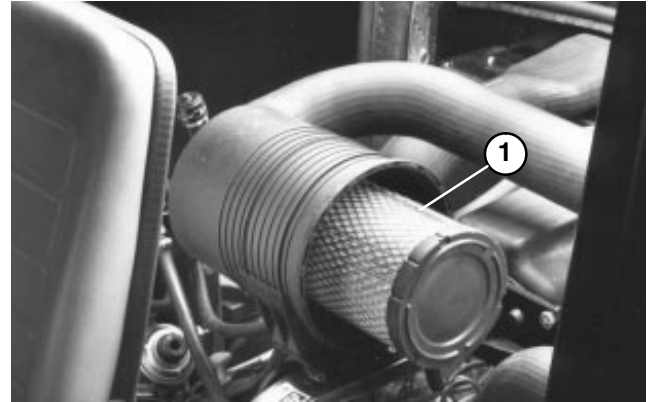

Figure 40
2. Gently slide primary filter (Fig. 40) out of air cleaner body to reduce the amount of dust dislodged. Avoid knocking filter against air cleaner body. **Do not remove safety filter.**